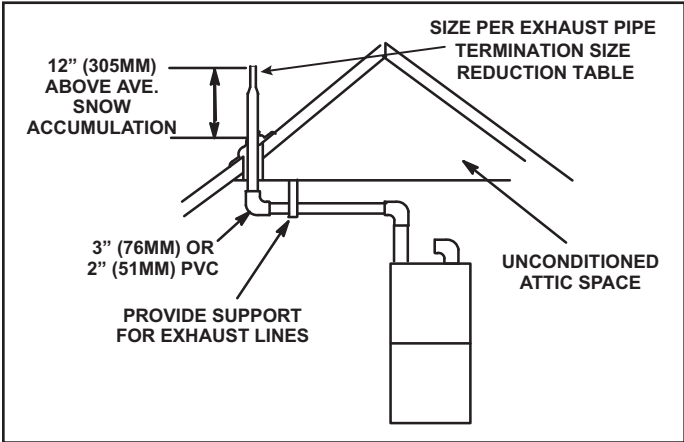

Figure 30. Non-Direct Vent Roof Termination Kit
- 3. On roof terminations, the intake piping should terminate straight down using two 90° elbows (see Figure 30).